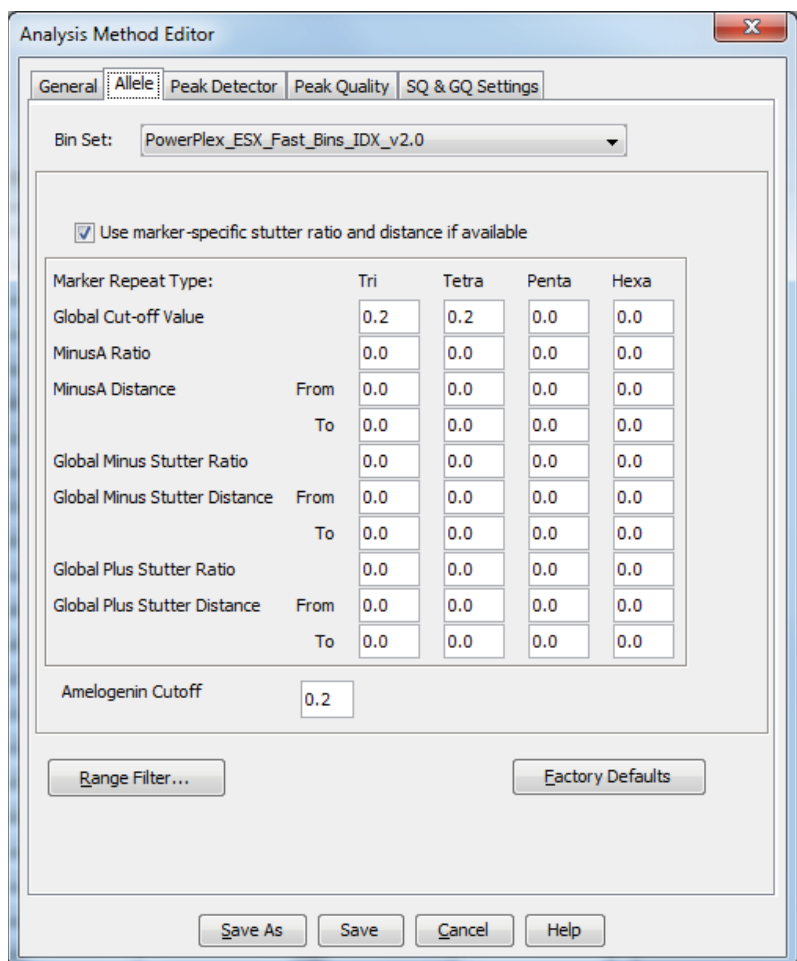

Figure 25. The GeneMapper® ID-X 'Allele' tab with settings for using a 20% peak filter.
6. Select the 'Allele' tab (Figure 25).
8. Ensure that the 'Use marker-specific stutter ratio and distance if available' box is checked. Doing this will assign locus-specific stutter files and distances from the imported stutter file. Ensure that the appropriate global filter is applied to this analysis method. For example, for a 20% filter, enter "0.20" for the Global Cut-off Value for Tri and Tetra repeats (Figure 25).